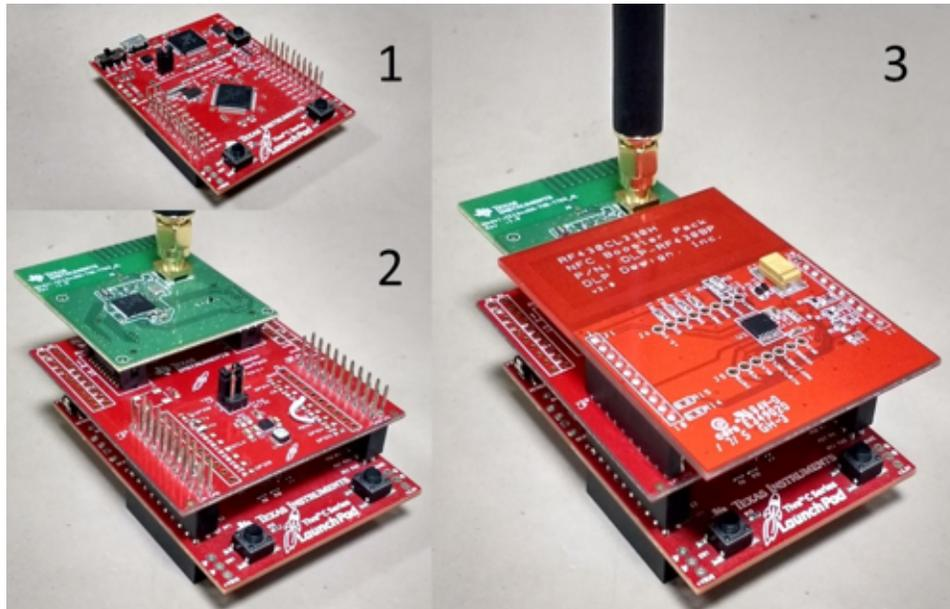

Figure 29. Connecting All Hardware Components of the Sub-1GHz Node
2. Connect the EM Adapter BoosterPack to the TM4C123x, and then connect the CC1310 to the header present on the EM Adapter BoosterPack as shown in Figure 29.